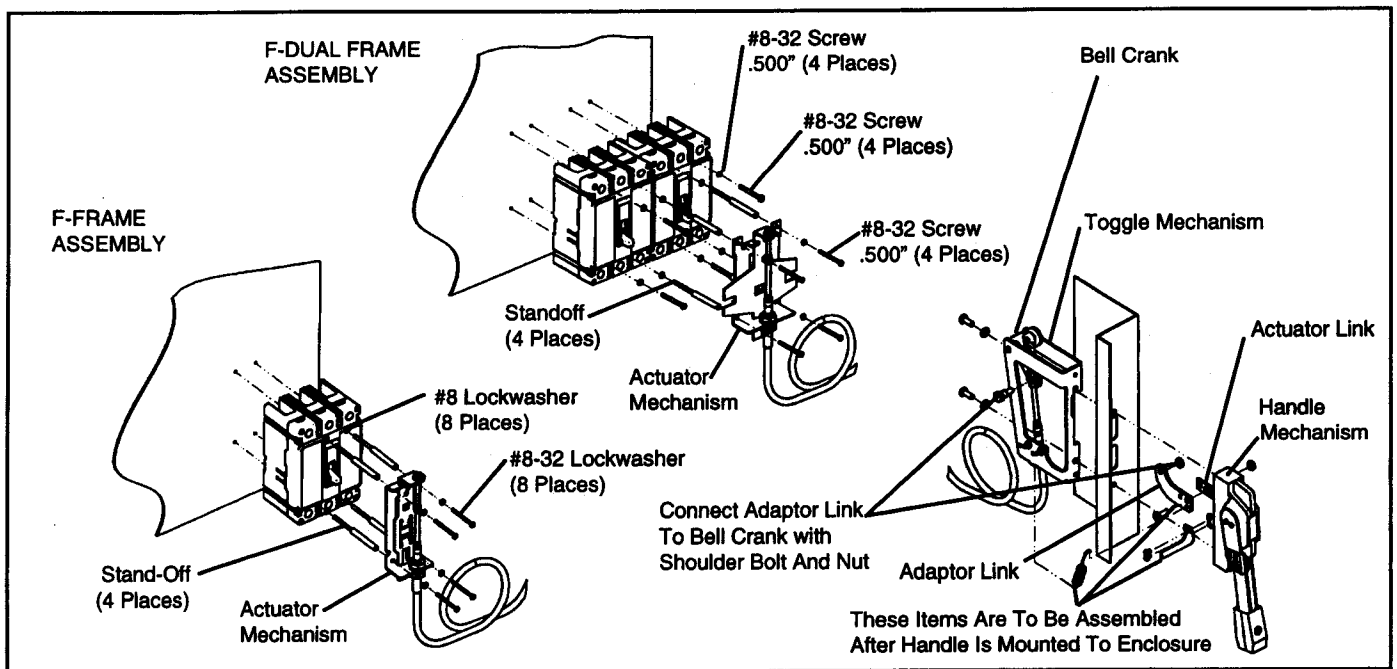

Fig. 1-1 Securing Actuator Mechanism to Breaker and Toggle Mechanism and Handle to Flange
1. For the F-Frame Flex Shaft™ Handle Mechanism, install breaker with four standoffs and lockwashers. For the F-Frame Dual Flex Shaft™ Handle Mechanism, install each breaker with two standoffs & lockwashers (inner mounting holes of breaker) and two mounting screws & lockwashers (outer mounting holes of breaker). See Fig. 1-1.